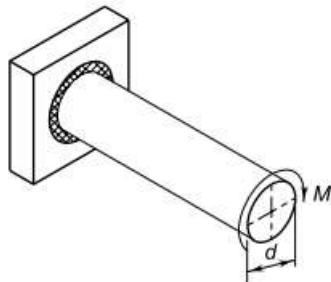

Fig. 4
- b) A circular shaft, 50 mm in diameter, is welded to the support by means of circumferential fillet weld as shown in Fig. 4. It is subjected to torsional moment of 2500 N-m. Determine the size of the weld, if the permissible shear stress in the weld is limited to 140 N/mm^2 . [5]